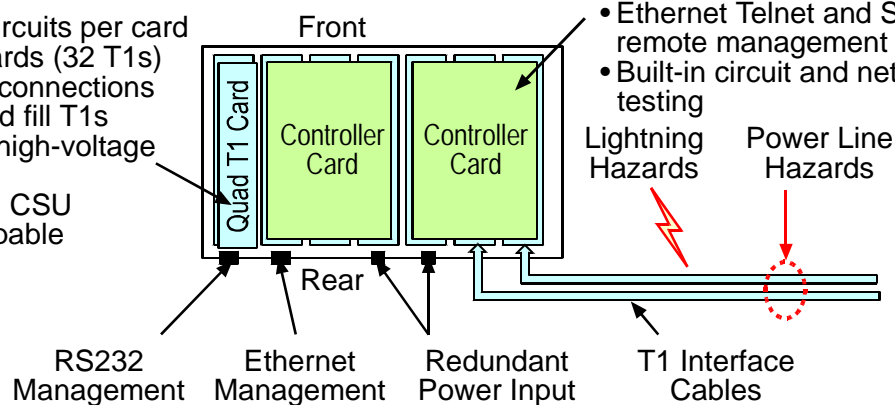

Figure 3-7. Access Navigator Hardware Configuration
- Hardware configuration: Modular construction with plug-in cards includes built-in circuit and network testing and fuse-less protection (see Figure 3-7)